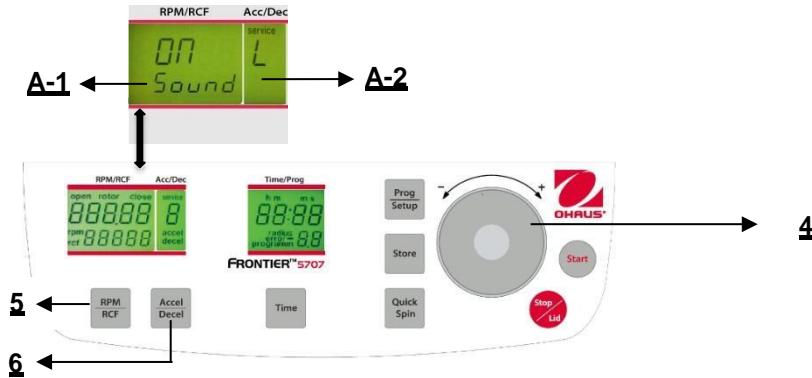

Figure. 29
Proceed as described under point 4.1.2 to enter this program mode and then press the key "Accel/Decel" (6). In the display "Acc/Dec" (A-2) the word "Service" flashes. Now select the letter "L" with the adjusting dial (4). As a result, the words "On Sound" appears in the display "RPM/RCF" (A-1). If you press the key "RPM/RCF" (5) now, the word "On" flashes and you can switch off the sound with the adjusting dial (4) (See figure 29).